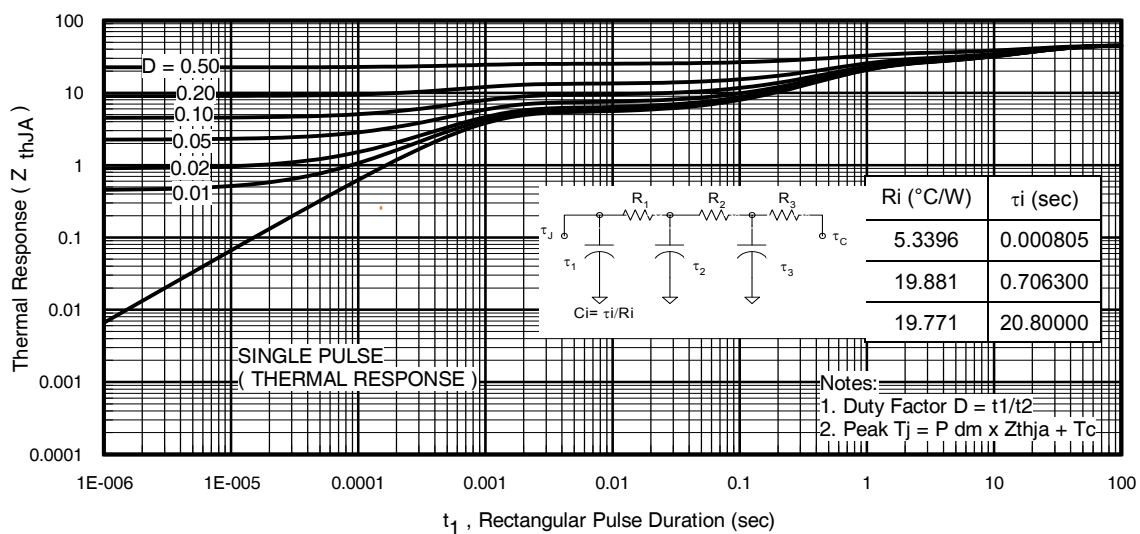
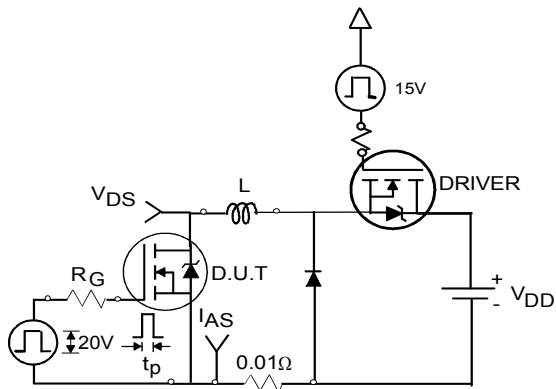

Fig 11. Maximum Effective Transient Thermal Impedance, Junction-to-Ambient
Fig 12a. Unclamped Inductive Test Circuit
- ① Repetitive rating; pulse width limited by max. junction temperature. (See fig. 11)
- ② Limited by T_{Jmax} , Starting $T_J = 25^\circ\text{C}$, $L = 4.8\text{mH}$, $R_G = 25\Omega$, $I_{AS} = 3.0A$, $V_{GS} = 10V$. Part not recommended for use above this value.
- ③ Pulse width $\leq 1.0\text{ms}$; duty cycle $\leq 2\%$.
- ④ $C_{oss\text{ eff.}}$ is a fixed capacitance that gives the same charging time as C_{oss} while V_{DS} is rising from 0 to 80% V_{DSS} .
- ⑤ Limited by T_{Jmax} , see Fig.12a, 12b, 15, 16 for typical repetitive avalanche performance.
- ⑥ This value determined from sample failure population, starting $T_J = 25^\circ\text{C}$, $L = 4.8\text{mH}$, $R_G = 25\Omega$, $I_{AS} = 3.0A$, $V_{GS} = 10V$.
- ⑦ When mounted on 1 inch square copper board.
- ⑧ When mounted on FR-4 board using minimum recommended footprint.
3. Equation below based on circuit and waveforms shown in Figures 12a, 12b.